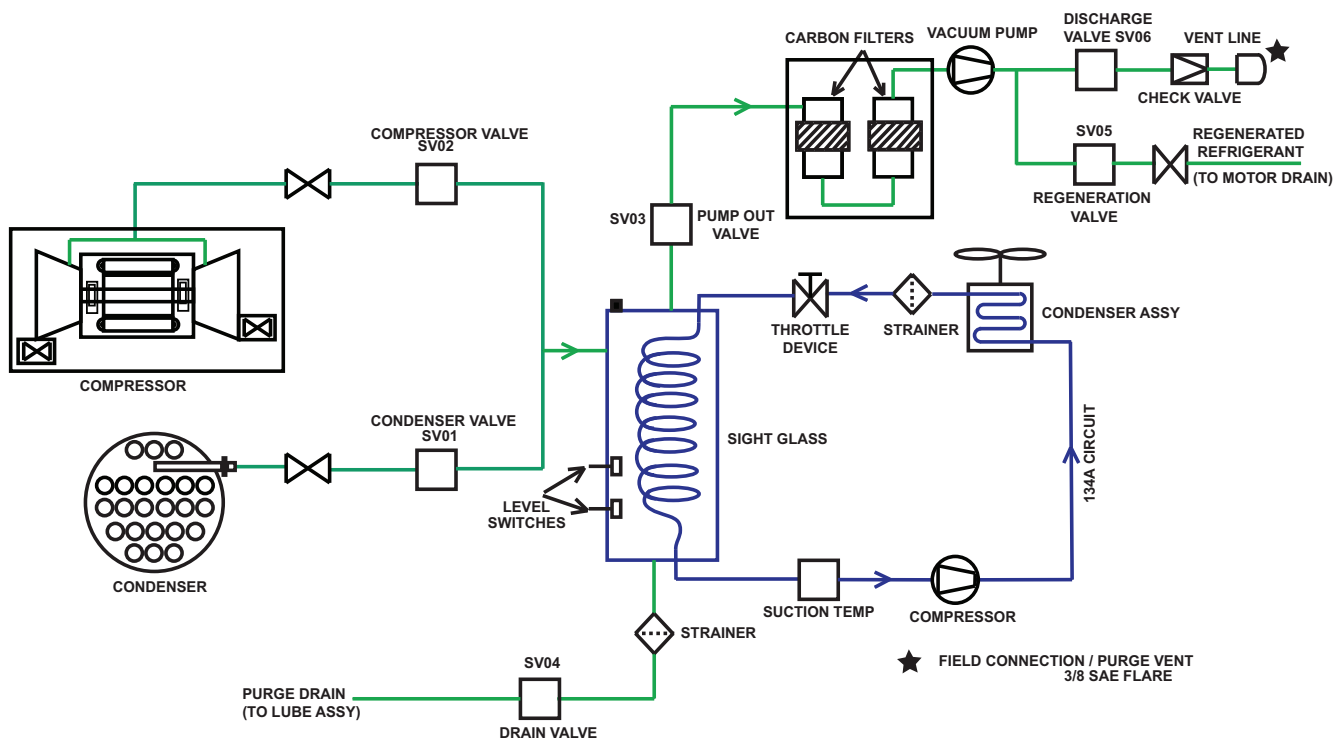

Fig. 12 — Purge Assembly
In the purge tank the purge gas is cooled by a separate integral R-134a cooling system. The cooling system consists of an compressor, an air cooled condenser coil, an expansion valve, and a cooling coil in purge tank. Cooling the purge gas results in condensation of R-1233zd(E) vapor as it touches the coil, resulting in a vacuum with the result that more refrigerant is pushed to the coil. As the purge tank fills up with refrigerant it will be drained through the purge drain to the refrigerant pump assembly. See Fig. 12.